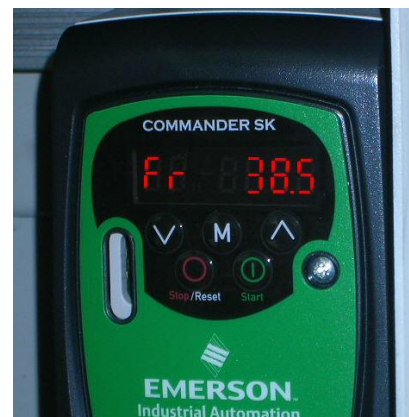

Figure 9.9 – VFD frequency readout
4. Inspect the value displayed on the panel of the VFD. It should be around 36.5- Hz. See figure 9.9. Record the